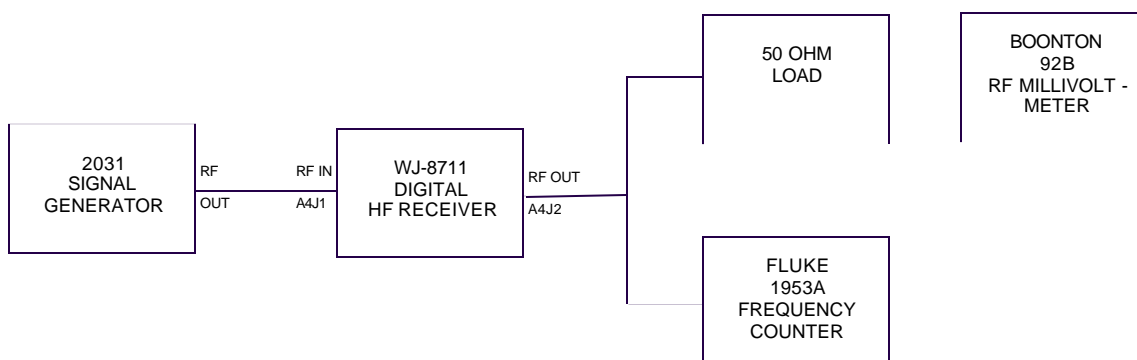

Figure B-6. WJ-8711/PRE Suboctave Preselector Option Test Equipment Connection
1. Connect the WJ-8711 Receiver and test equipment as illustrated in **Figure B-6**.